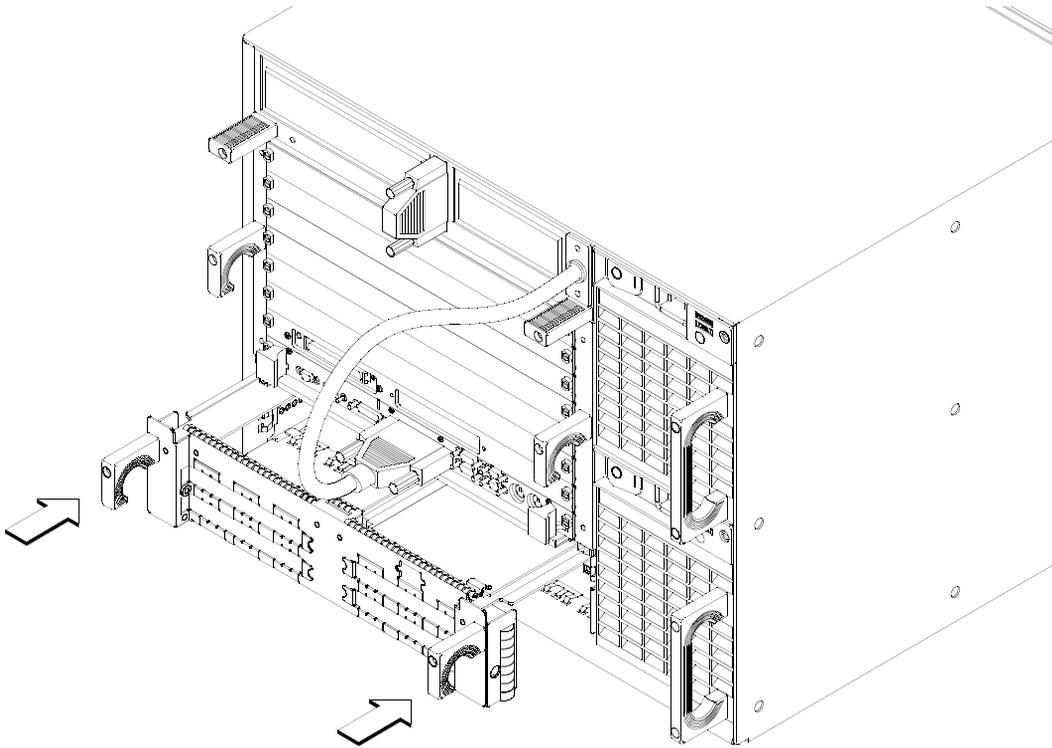

Figure 4-3 Sliding the EISA Module Back into the VMEbus Chassis
- 10** Slide the EISA module back into the VMEbus chassis, as shown in Figure 4-3, and then tighten its handle screws.